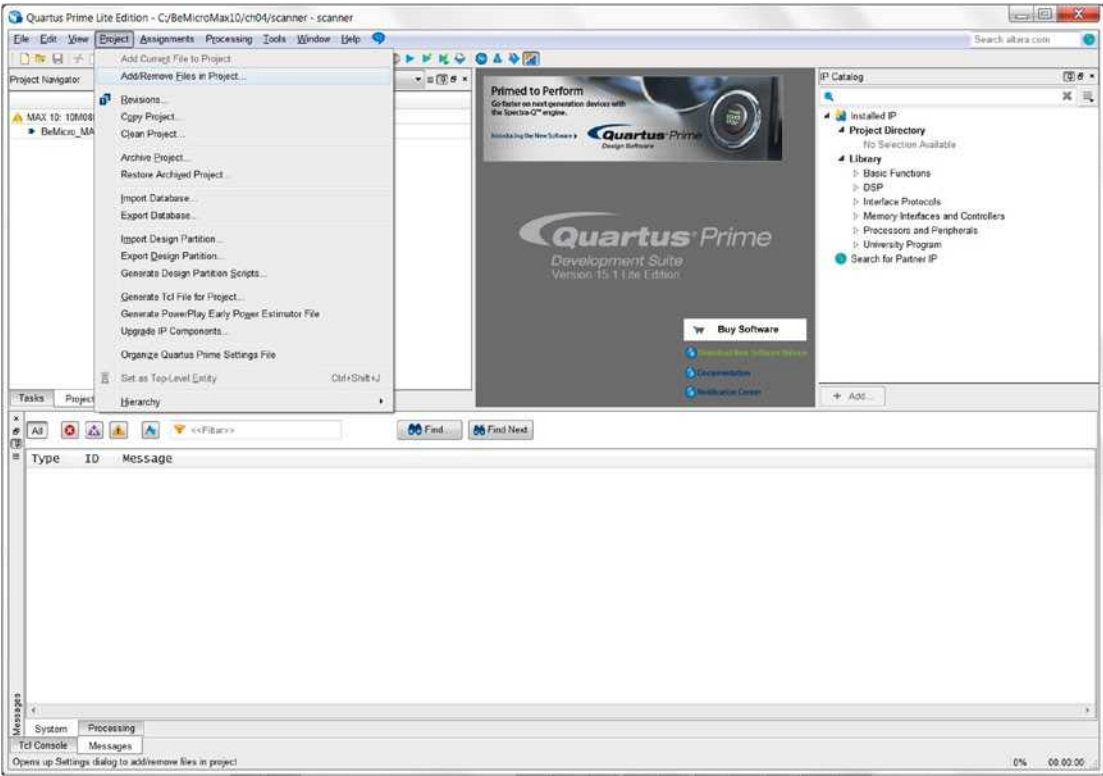

Figure 4-17. Quartus Prime—Project Navigator
1. The first thing to do is add a BeMicro MAX10 vhdI template file. Click **Project ► Add/Remove Files in Project...** from the Quartus Prime menu to open the Files Setting dialog box. It should look like Figure 4-17.